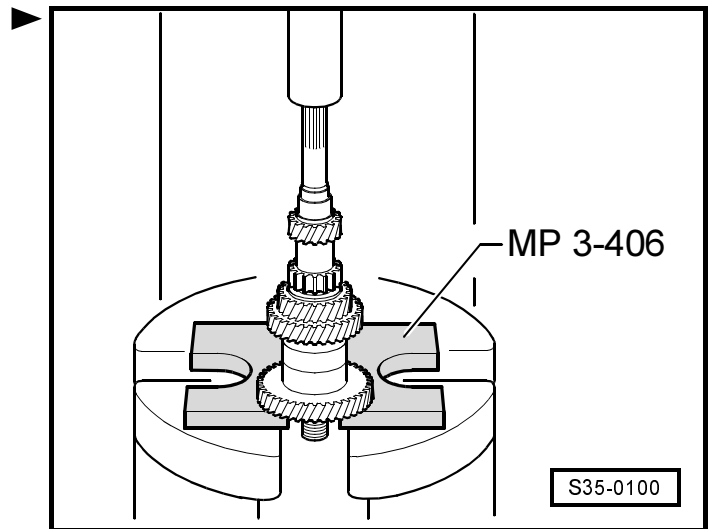

Fig. 7: Press the cylindrical-roller bearing out of the clutch housing
- pressing out ⇒ Fig. 7 in **35-1** page 5